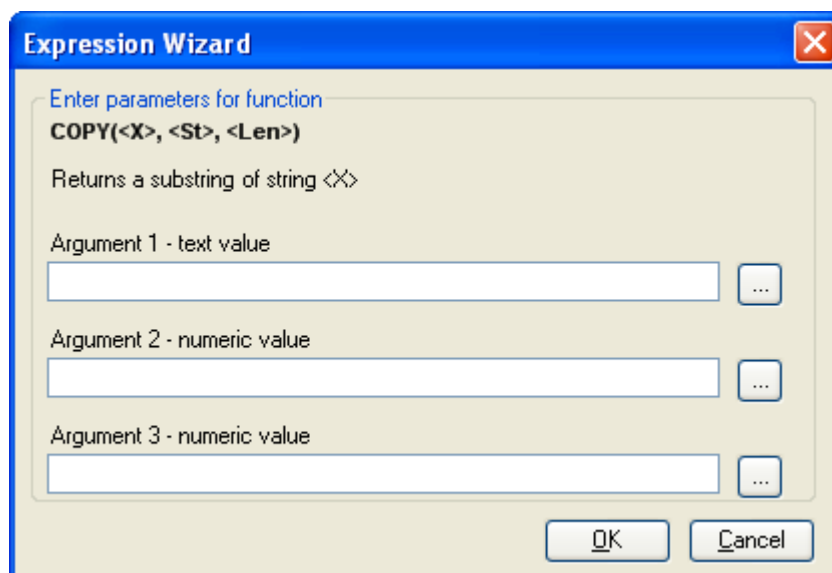

Figure 36 - Function Parameter Window
- Click on the **Function** button to go to the **Select Function** (Figure 26) window. After selecting the required function, click on the **Continue** button to bring up the **Function Parameter** (Figure 36) window.